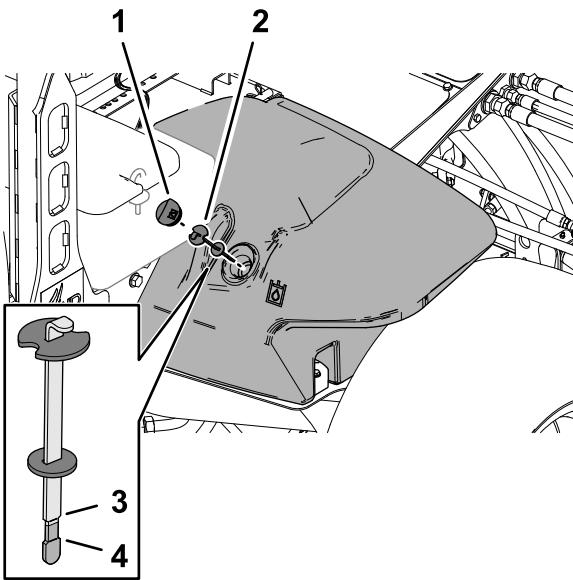

Figure 151
2. Clean the area around the filler neck and cap of the hydraulic tank (Figure 151).